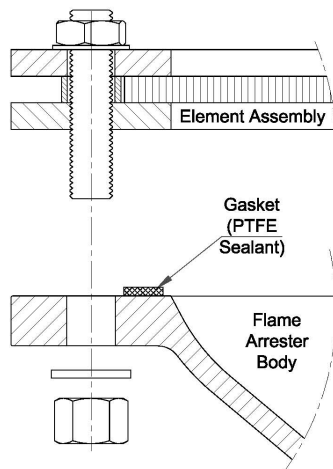

Figure 2 – Gasket Installation (Section View)
1. Clean both flanges of all old gasket material (Figure 2). If the surfaces are oily, clean with a solvent so that the sealant adhesive strip will adhere properly.